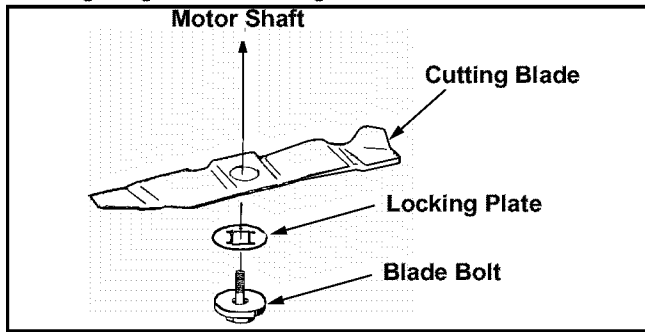

Figure 13
- Place the cutting blade, locking plate, and blade bolt on the motor shaft and thread the blade bolt in finger tight. Refer to Figure 13.
- Remove the blade and blade hub assembly and lubricate the motor shaft with light oil or engine oil. Refer to Figure 13.